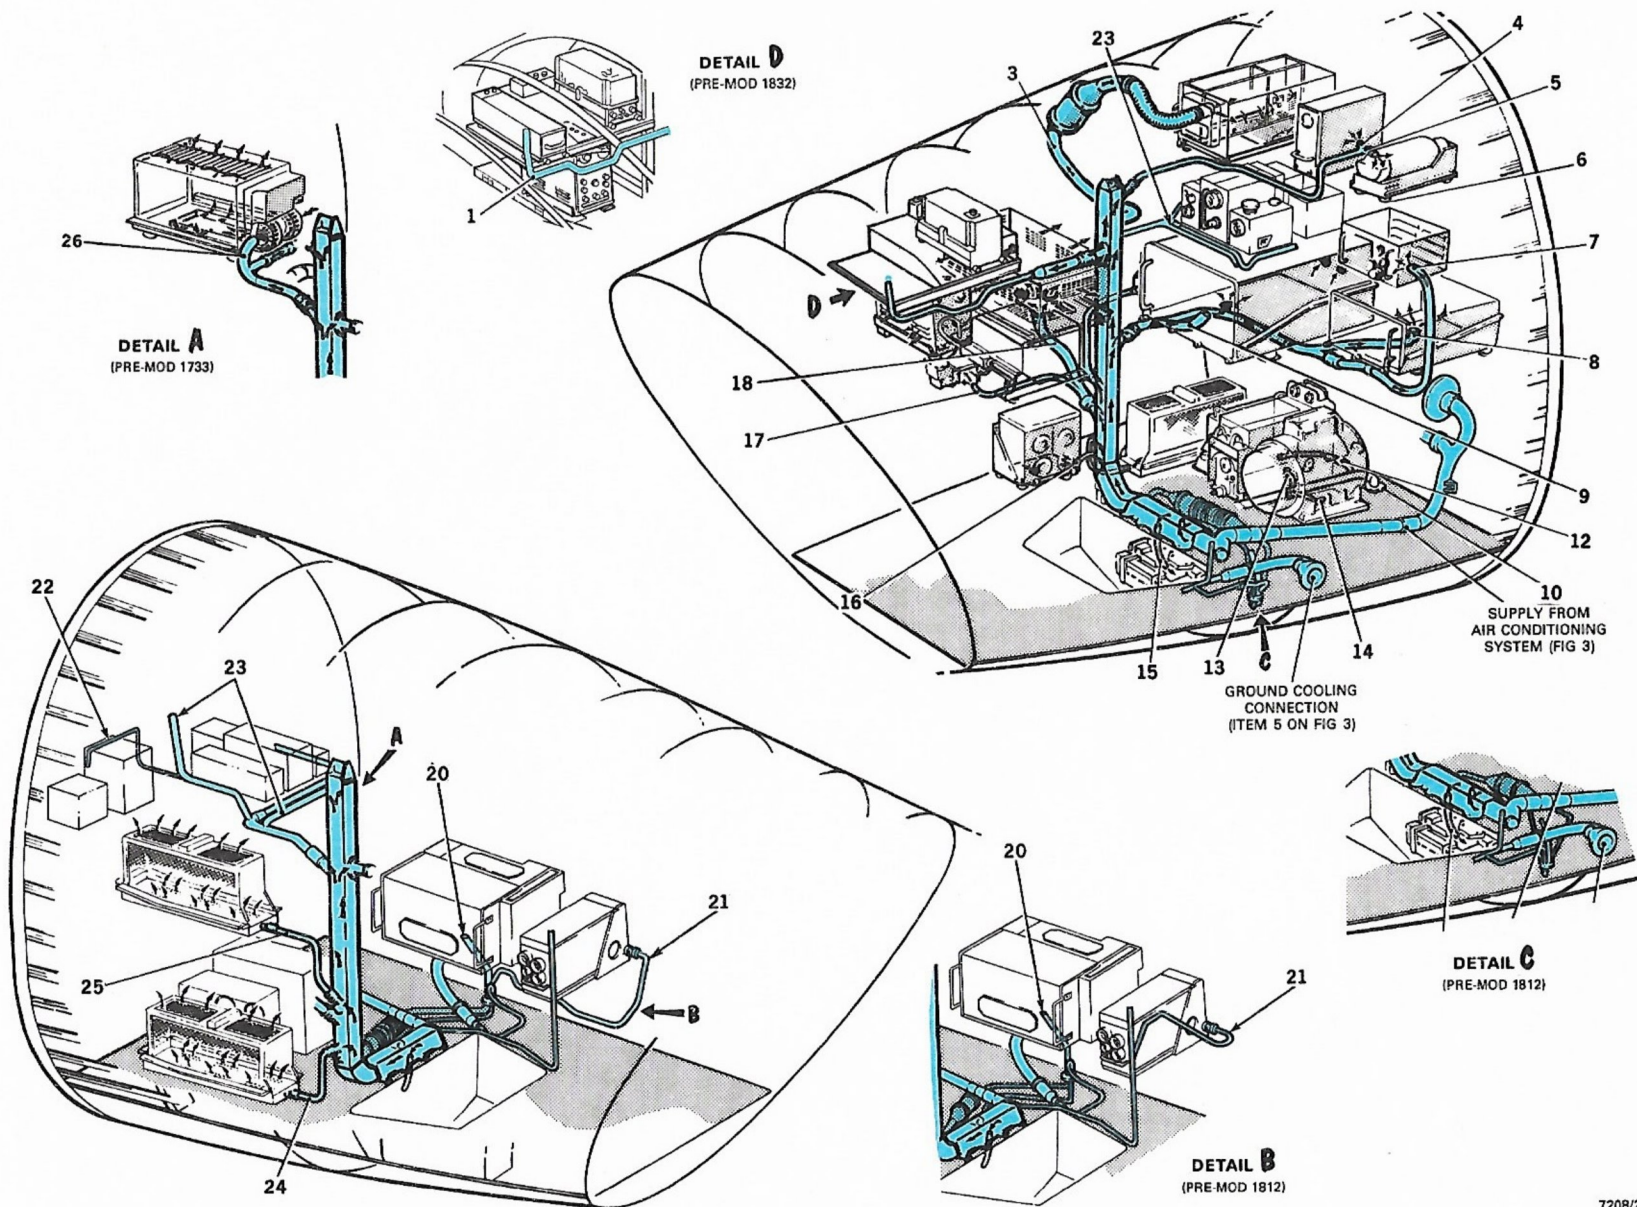

Fig. 4 Radio bay air distribution
4. On post-Mod 1800, pre-Mod 1812 aircraft the system is extended to include the inertial navigation unit (INU) and interface unit (IFU). An additional outlet from the ducting conveys the air supply to the INU and IFU mounting trays (Fig.4). The cooling air for the INU is passed through a heat exchanger to raise the conditioning air temperature to a nominal 30°C, ensuring that no free water enters the INU. On embodiment of Mod 1812, the ducting is further modified to pass the cooling air for both the INU and IFU through the heat exchanger. The heat exchanger is replaced by a new unit incorporating a mixer section and an electrically driven fan in addition to the heater block. Details of the electrical operation of the INU cooling air system are given in Sect 16, Chap 8A.